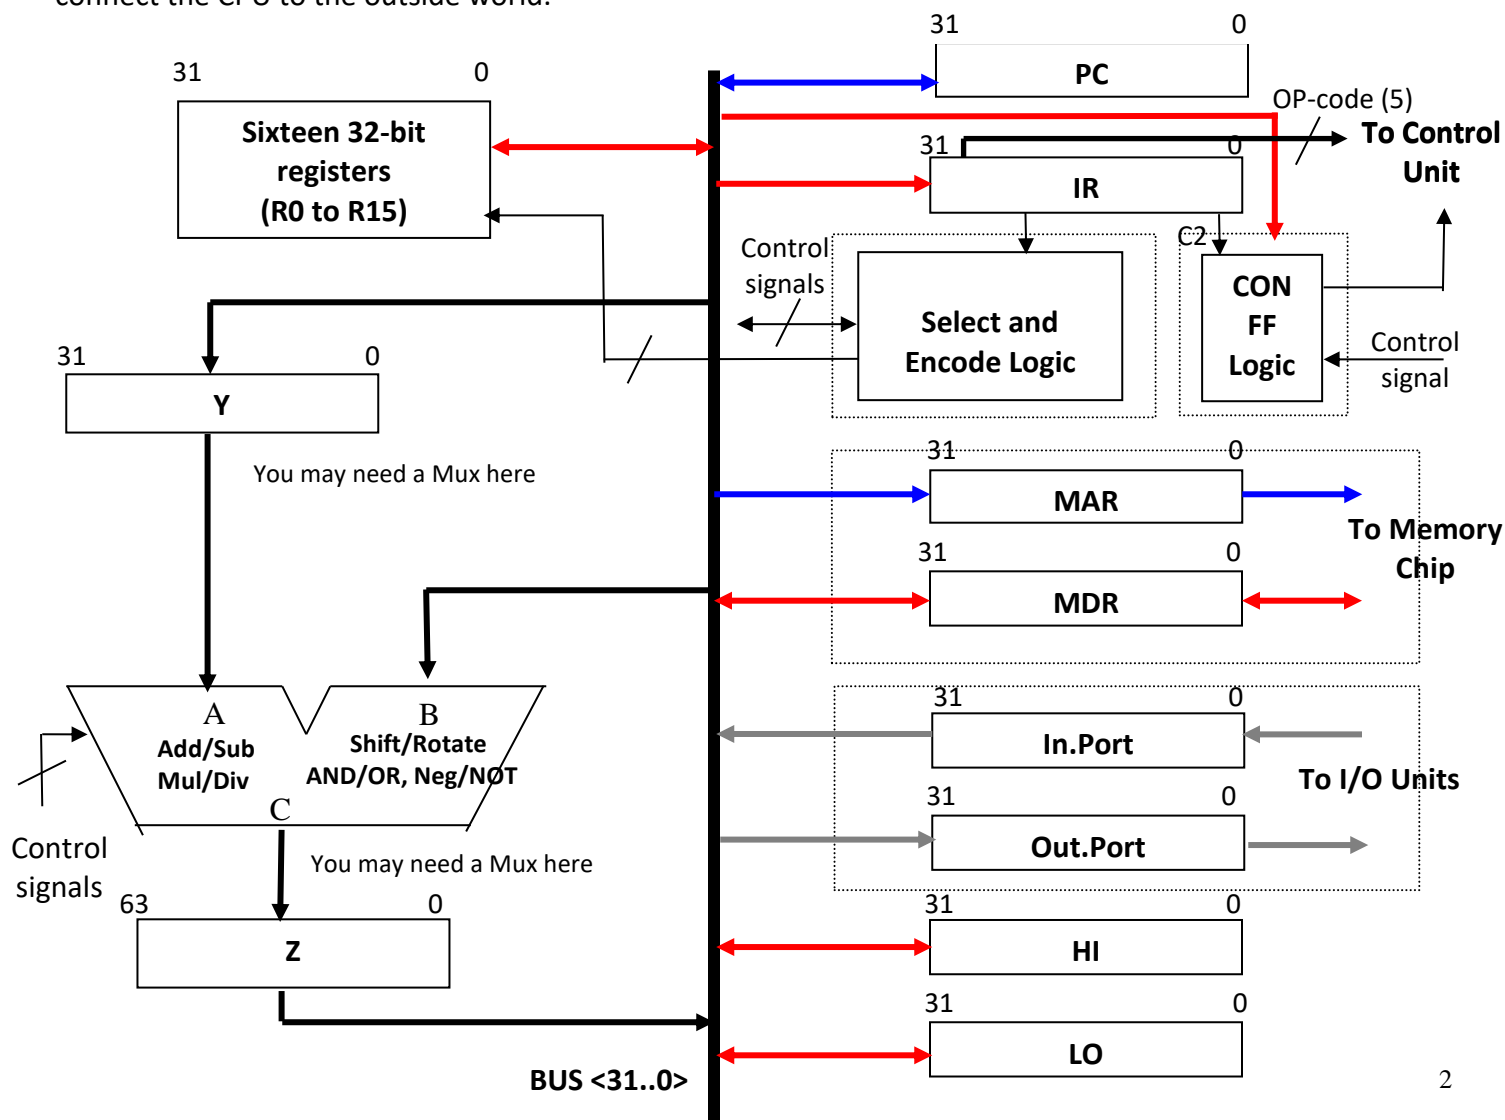

Figure 1: Simplified datapath
The objective of this project is to design, simulate, implement, and verify a simple RISC Computer (Mini SRC), consisting of a simple RISC processor, memory, and I/O. Phase 1 of this project consists of the design and Functional Simulation of a part of the Mini SRC datapath. In this Phase, you will design the necessary logic and simulate the *add*, *sub*, *mul*, *div*, *and*, *or*, *shr*, *shra*, *shl*, *ror*, *rol*, *neg*, and *not* instructions. The “Select and Encode” logic, “CON FF” Logic, “Input/Output” ports, “Memory Subsystem” and load/store instructions, branch and jump instructions, as well as *addi*, *andi*, and *ori* instructions will be designed and simulated in Phase 2. The complete datapath is shown in Figure 1.
2.1 DataPath: Figure 1 illustrates a simplified single-bus Datapath for the Mini SRC (see Figure 4.2 on page 143 and Figure 4.3 on page 148 of the Lab Reader). As shown in Figure 1, the datapath consists of a 32-bit bus, BUS. The bus is responsible for transferring the information among different components of the system. There can be only one transaction at a time on the bus. There are sixteen 32-bit registers *R0* through *R15* in the Mini SRC, as discussed in the CPU specification document. There are also two dedicated 32-bit registers *HI* and *LO* for holding the result of a multiplication or a division operation. The 32-bit *Instruction Register*, *IR*, holds the current instruction. The 32-bit *Program Counter*, *PC*, points to the address of the next instruction after the execution of the current instruction. *PC* is incremented by 1 during the instruction fetch, using *IncPC* control signal in the ALU. You may opt for a hardware incrementer for *PC* outside ALU. In general, you are welcome to come up with your own ideas and design decisions during the entire CPU design project.
Design the datapath shown in Figure 1 (except for the “Select and Encode Logic”, “CON FF Logic”, “Memory chip in the Memory Subsystem”, and “Input/Output ports” units) using an all HDL (Verilog or VHDL) in Intel Quartus Prime design software. You are highly advised to follow the general steps below, and those mentioned in the CPU Design Project Tutorial, when designing and implementing your datapath. In each step of the way, functionally simulate your design to check if it works properly.
1. Design the registers R0 to R15, PC, IR, Y, Z, MAR, HI, and LO (see Figures 1 and 2).